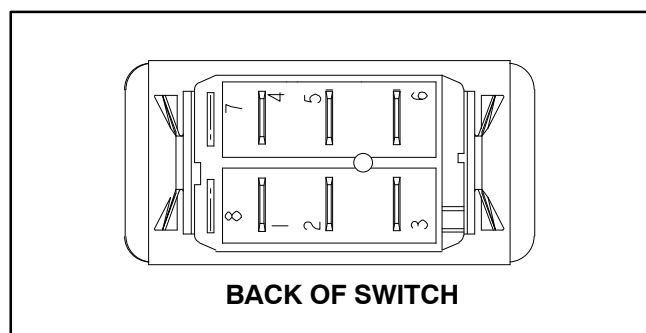

Figure 14
4. With the use of a multimeter (ohms setting), the rear differential lock switch functions may be tested to determine whether continuity exists between the various terminals for each switch position. The switch terminals are marked as shown in Figure 14. The circuitry of this switch is shown in the chart below. Verify continuity between switch terminals for each switch position.